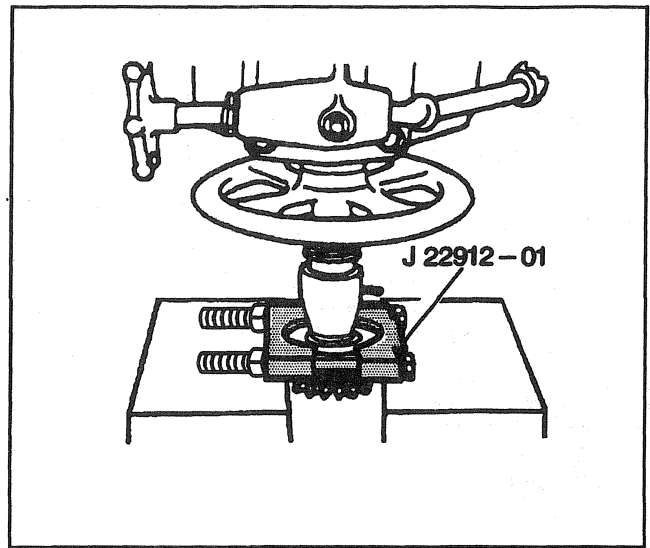

Figure 11—Removing the Thrust Sleeve
- Press the sleeve from the side gear (Figure 11).